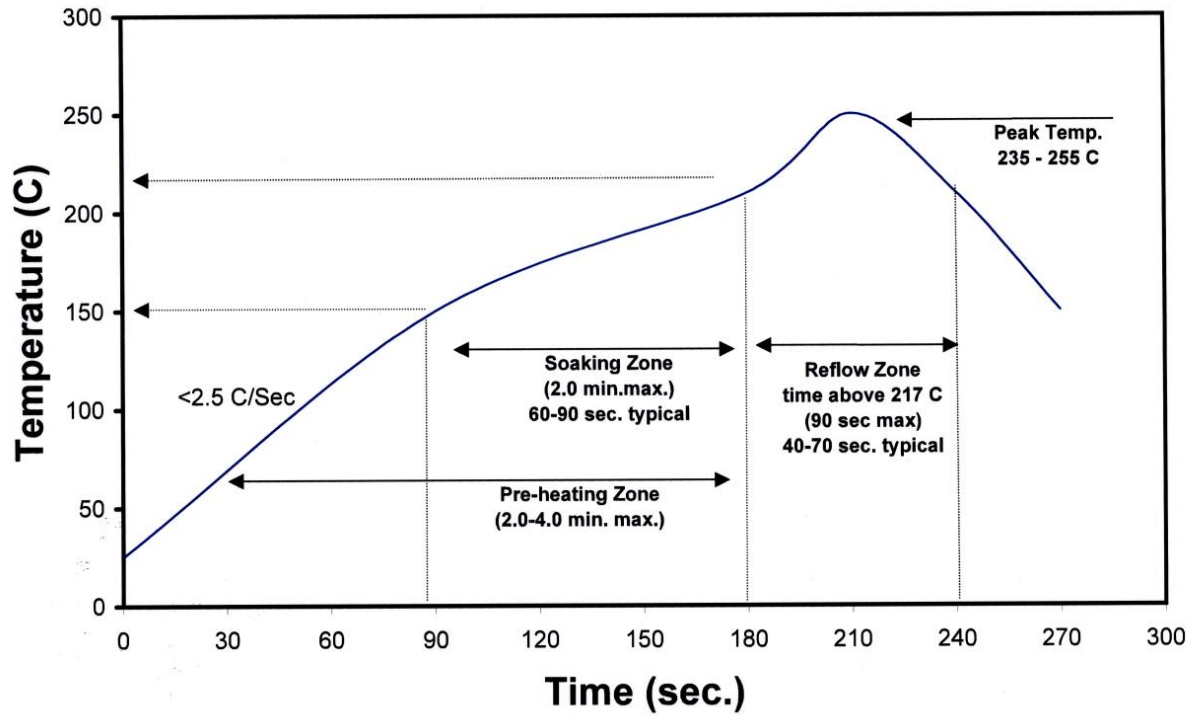

Figure 3: Reflow soldering profile for lead free soldering.
4. Solder conditions per JEDEC J-STD-020. See Reflow Soldering Profile Figure 3.